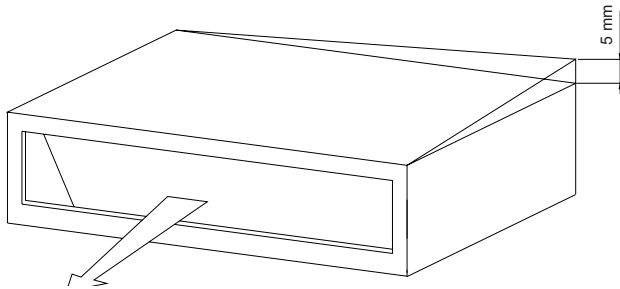

Fig. 4.8 Top Surface Inclination Degree
- (2) As shown in Fig. 4.8, the rear part of indoor unit is slightly lower than its front part (by 0~13/64in. (5mm)) so as to facilitate drainage.
- (3) Tighten the suspension nut upon completion of adjustment. It's essential to apply thread locking agent to avoid nut looseness.